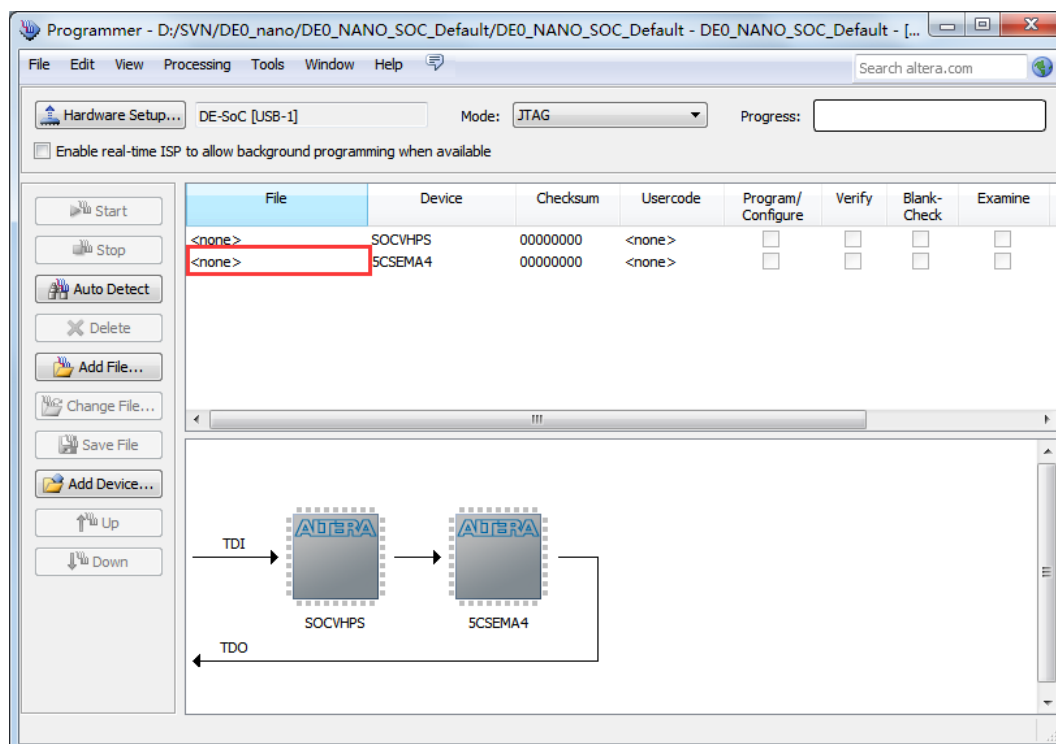

Figure 8-6 Two devices are detected in the Quartus II Programmer
3. Click **Auto Detect** and then select the correct device(SCSEMA4). Both FPGA device and HPS should be detected, as shown in **Figure 8-6**.
4. Double click the red rectangle region shown in **Figure 8-6** and the **Select New Programming File** page will appear. Select the .jic file to be programmed.
3. Click **Auto Detect**, and then select correct device, both FPGA device and HPS will be detected. (See **Figure 8-6**)
4. Double click the red rectangle region shown in **Figure 8-6**, and the **Select New Programming File** page will appear. Select the correct .jic file.